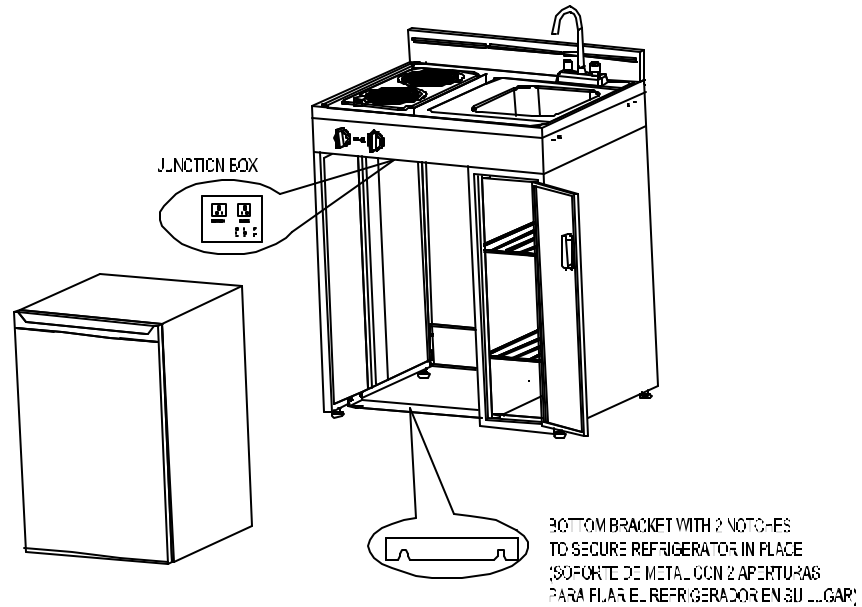

Figure No. 6
- ? Connect the Refrigerator power supply cord to the receptacle in the junction box located at the back of kitchen cabinet under the countertop as shown in Figure No. 6.
- ? Secure refrigerator leveling legs in place using the bottom bracket notches as shown in Figure No. 6.